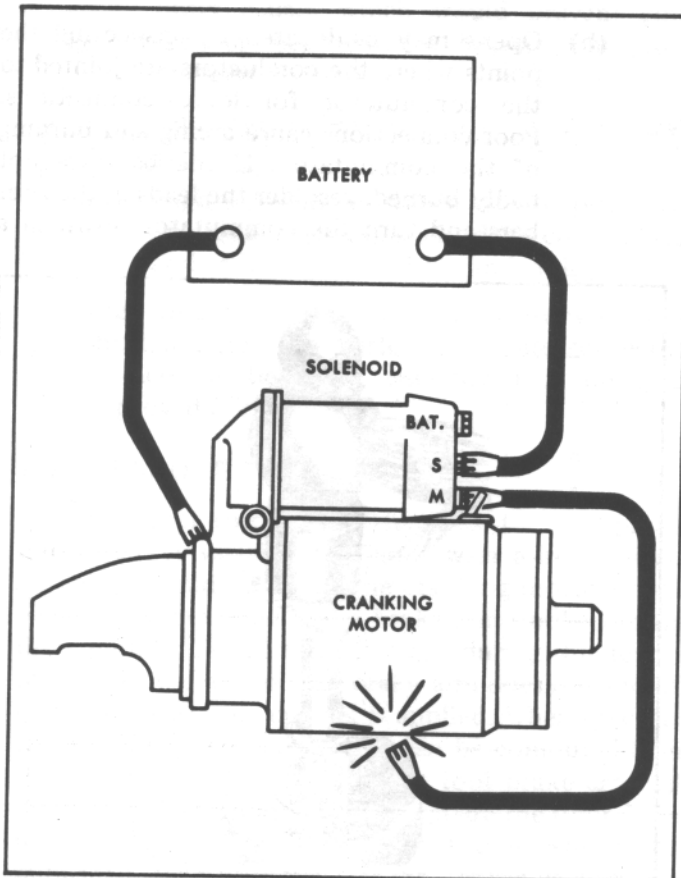

Fig. 143. Circuit for Checking Pinion Clearance.
2. Connect a battery, of the same voltage as the solenoid, from the solenoid switch terminal to the solenoid frame (Fig. 143).